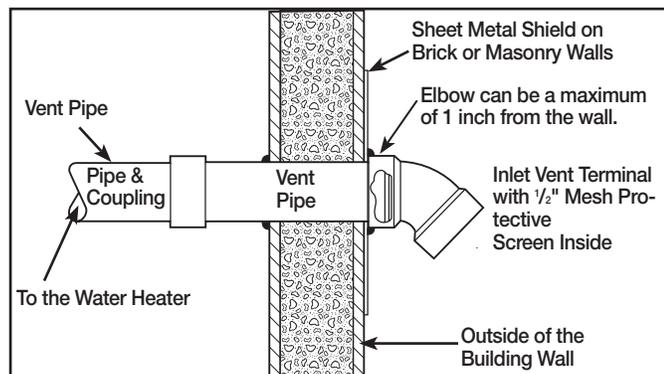

Figure 6 – Typical Horizontal Vent Installation
3. **DO NOT** terminate vent pipe directly on brick or masonry surfaces. Use a rust-resistant sheet metal backing plate behind vent. (See Figure 6.)
HORIZONTAL VENT INSTALLATION – Once the vent terminal location has been determined, make a hole through the exterior wall to accommodate the vent pipe. The vent pipe must exit the exterior wall horizontally only (See Figure 6).
Insert a small length of vent pipe through the wall, and connect the coupling as shown in Figure 6. Connect the vent terminal as shown to the vent pipe on the exterior of the building. Seal any opening around the vent pipe or fittings with mortar or silicone caulk as shown in Figure 6.